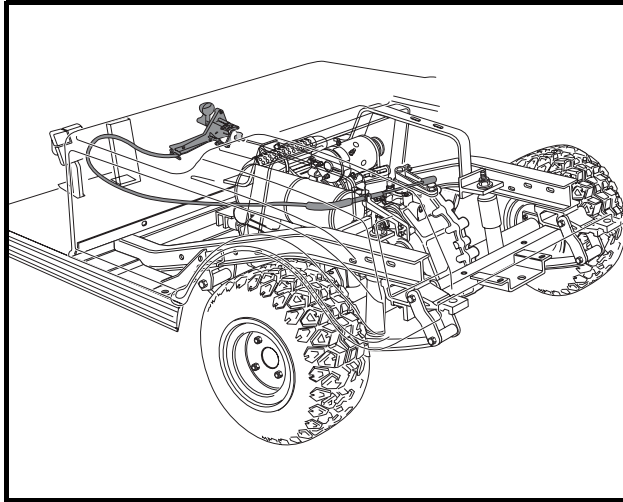

Figure 16-53 Forward/Reverse Cable Routing
1. From the Forward/Reverse shifter, route the cable toward the driver side of the vehicle so it lies against the side of the front body, turns 90° and passes to the driver side of air intake box, over the battery, beside the fender and then turns again to connect with the shifter arm on the transaxle (**Figure 16-53, Page 16-20**). Make sure cable does not touch muffler.